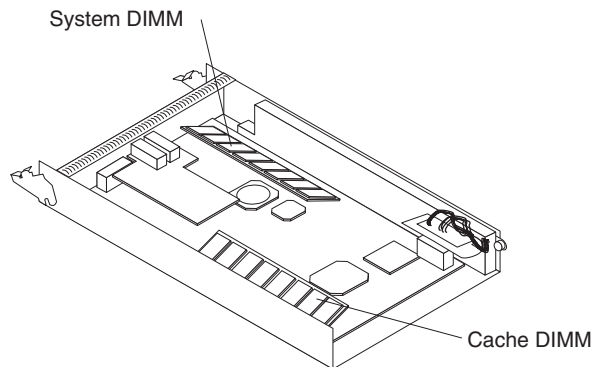

Figure 51. Cache and system DIMM locations
- a. Open the retaining clip on each end of the DIMM connector. Figure 51 shows the cache and system DIMMs.